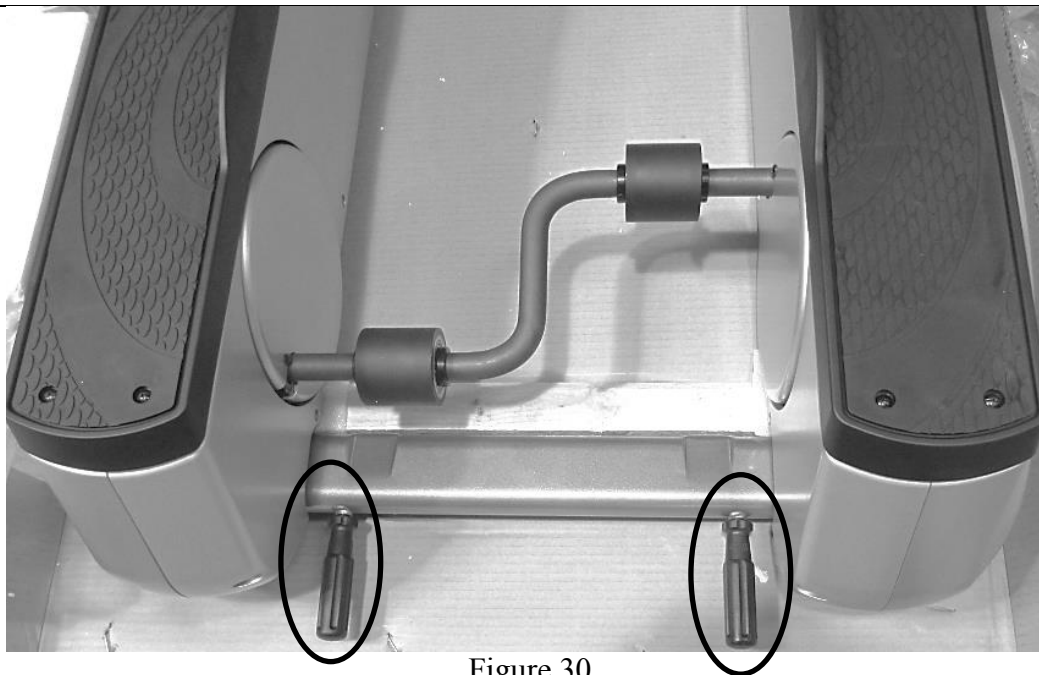

Figure 30
- b) Once Elliptical is moved into its final location, remove the two Handle Bars on the back of the machine and store with owner's manual for future use. Figure 30